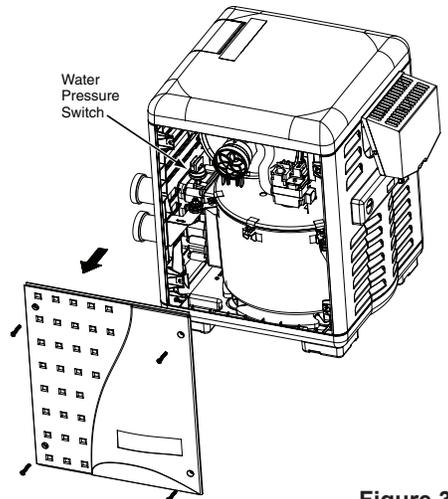

Figure 36.
- Remove the access door panels by unfastening the four screws located on each door, then lift up and out from the bottom of the panel to remove. If necessary, the screws may be used as handles, see Figure 36.
- Remove the access door panels, see Figure 36.